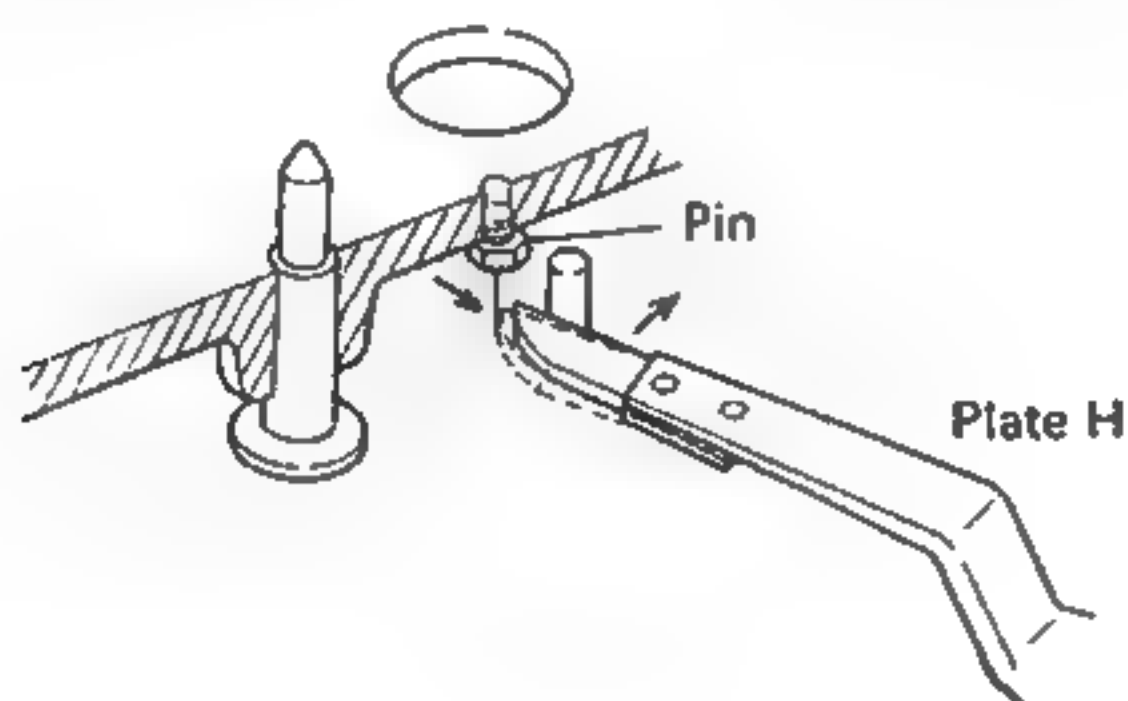

Fig. 9
3. While the tonearm stylus moves 1—1.5mm toward the center with each rotation of the record, plate H is brushed aside by the platter pin (Fig. 9).